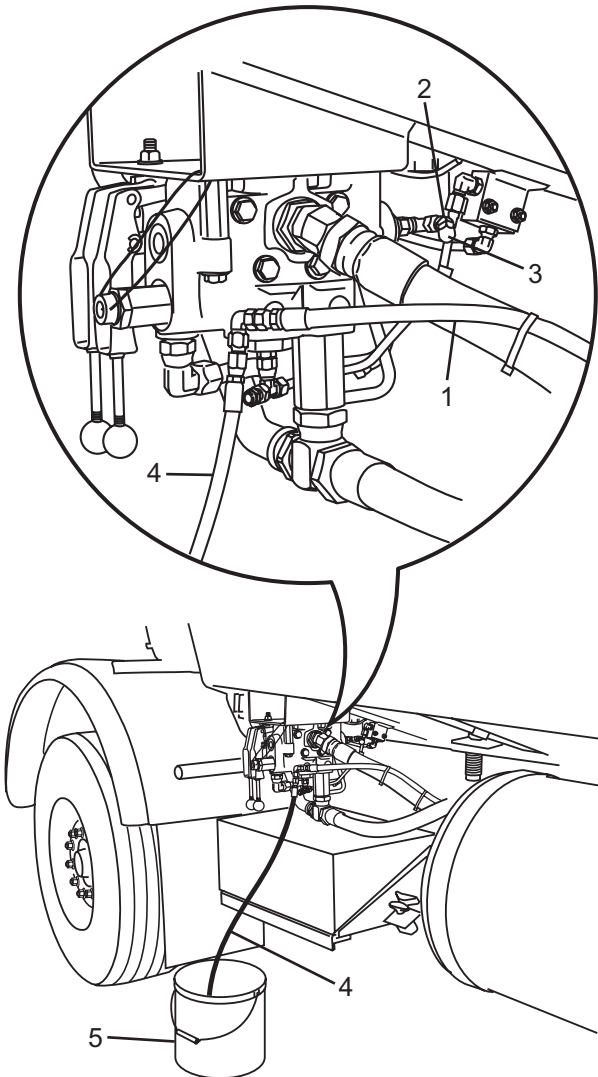

Figure 35
1. Clean around the inlet unloader valve tee connection. Disconnect the flow control sense line (Figure 35, Item 1) at the inlet unloader valve tee connection (Figure 35, Item 2). Be careful not to let contaminants such as dirt or paint chips in. Install a cap (Figure 35, Item 3) on tee connection.
2. Connect the sense line to a shop test hose (Figure 35, Item 4).
3. Place end of shop test hose in large container (Figure 35, Item 5).